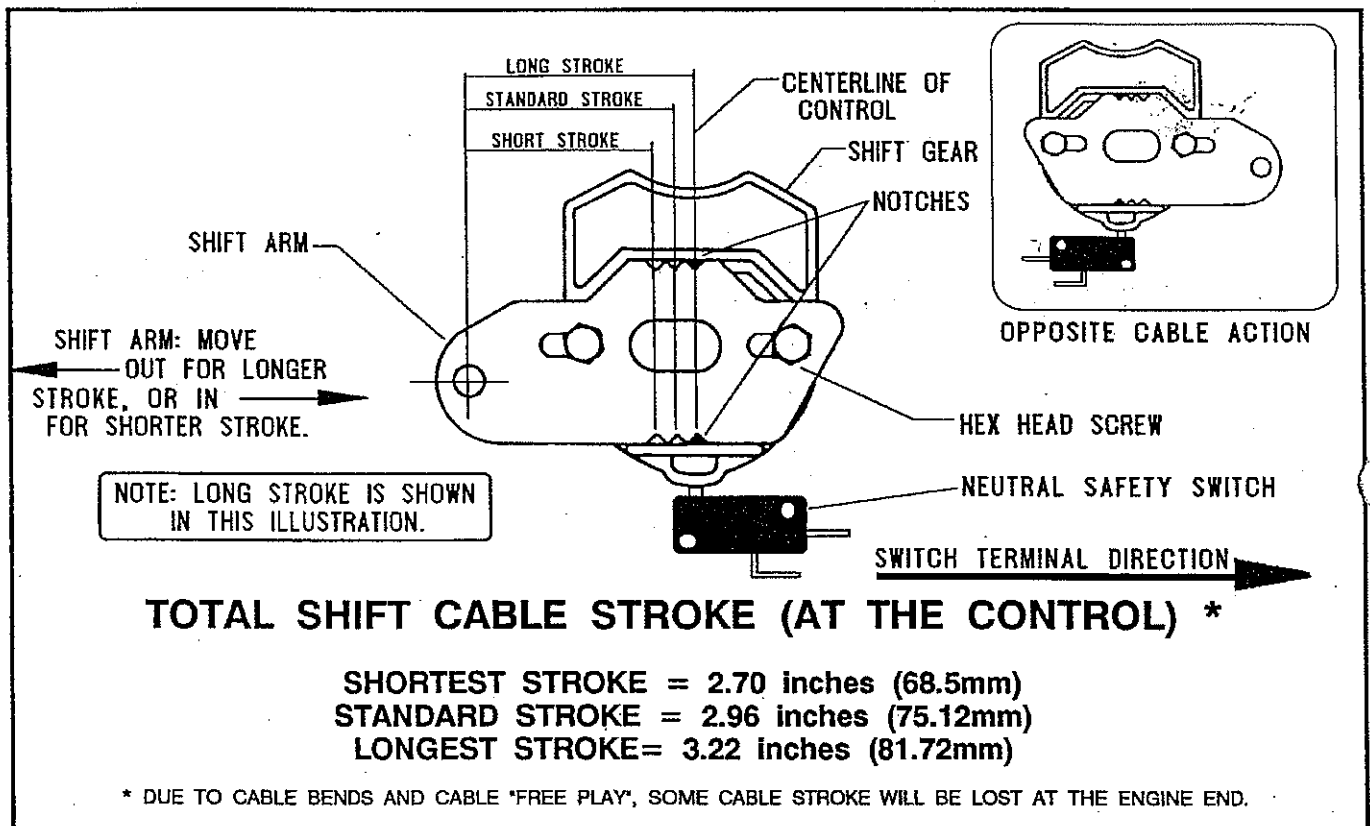

FIGURE 2 SHIFT STROKE ADJUSTMENT
- ADJUSTABLE SHIFT STROKE TO ACCOMODATE MOST TRANSMISSION APPLICATIONS (REFER TO FIGURE 2).
The Shift Arm is factory-set for standard travel (center notch). Refer to Figure 2.
1. Loosen the two (2) Hex Head cap Screws so the Shift Arm can be lifted to clear the notches.
2. Reposition the Shift Arm to the desired stroke. Be sure the notches are properly engaged before tightening the Screws. Refer to Figure 2.